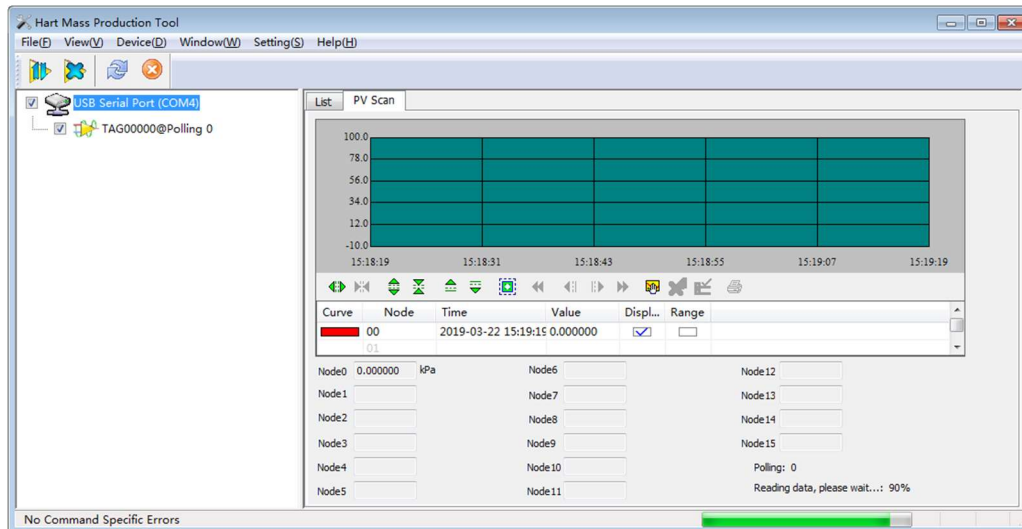

Figure 5.19 Main variable monitoring tab
- (1) Click on the left mouse button in the network view serial node (for example: COM1), the right tab view shows the serial port connected to the network of all online device related tab information.
- (2) Click "main variable Monitoring" in the right tab view, as shown in Figure 5.19.错误!未找到引用源。